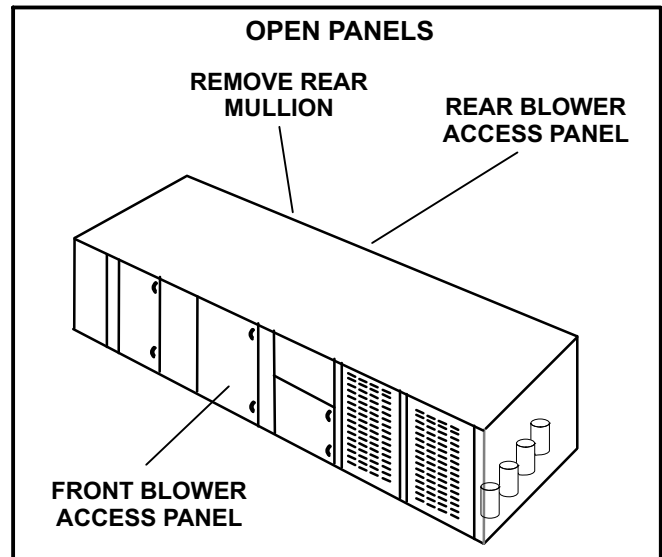

FIGURE 1
- 1- Disconnect all power and open blower access panels. See figure 1. Locate the rear mullion to the right of the blower access panel. Remove the screw securing the bottom of the mullion; remove mullion.